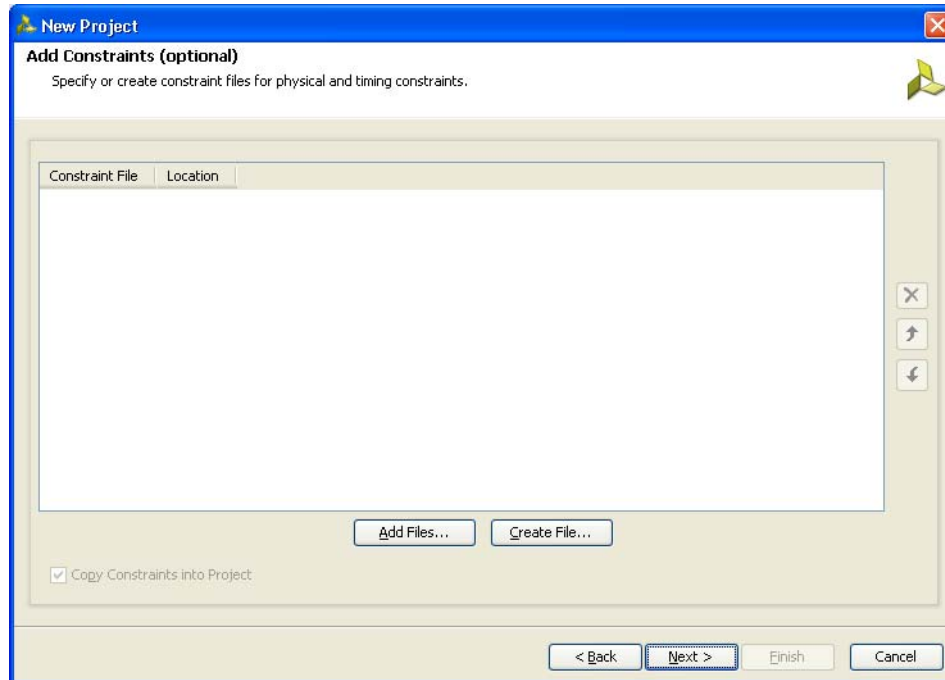

Figure 4-7: Add Constraints (Optional)
- Click **Next** to open the **Add Constraints (Optional)** page (Figure 4-7). If the constraints file exists in the repository, it can be added to the project. Proceed to the next page if the constraints file does not exist.